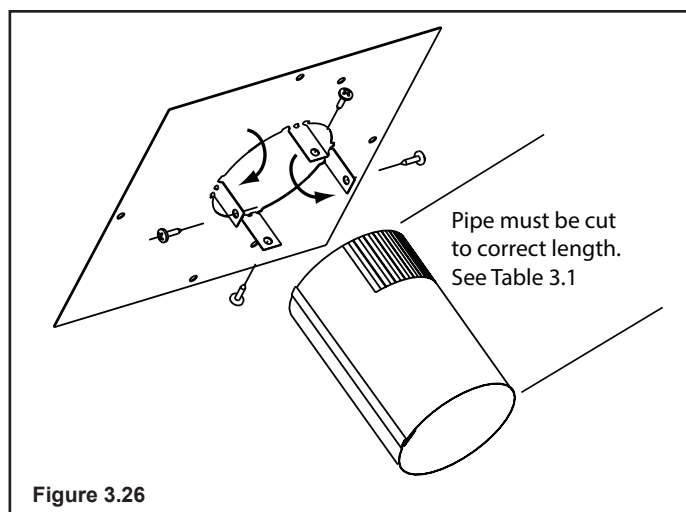

Figure 3.26
- On the mounting plate, hand bend the tabs downward. Slide the tabs over the outside of the starter pipe. Secure with four sheet metal screws included in fasteners package. Figure 3.26.
Also screw the B-vent to the outlet box on the fan housing. See Figure 3.26. Support duct at intervals of no greater than 4 ft (1 m) as required by local code.